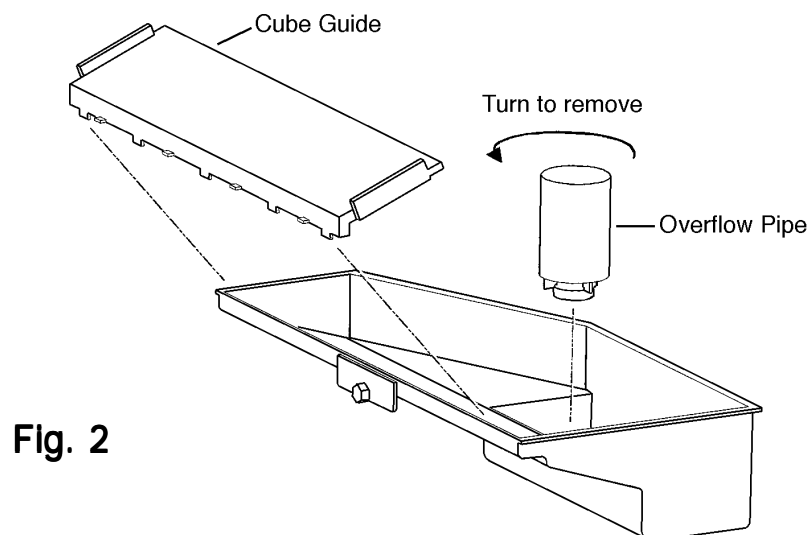

Fig. 2
- 6) Remove the Cube Guide and the Overflow Pipe to drain the Water Tank. See Fig. 2.